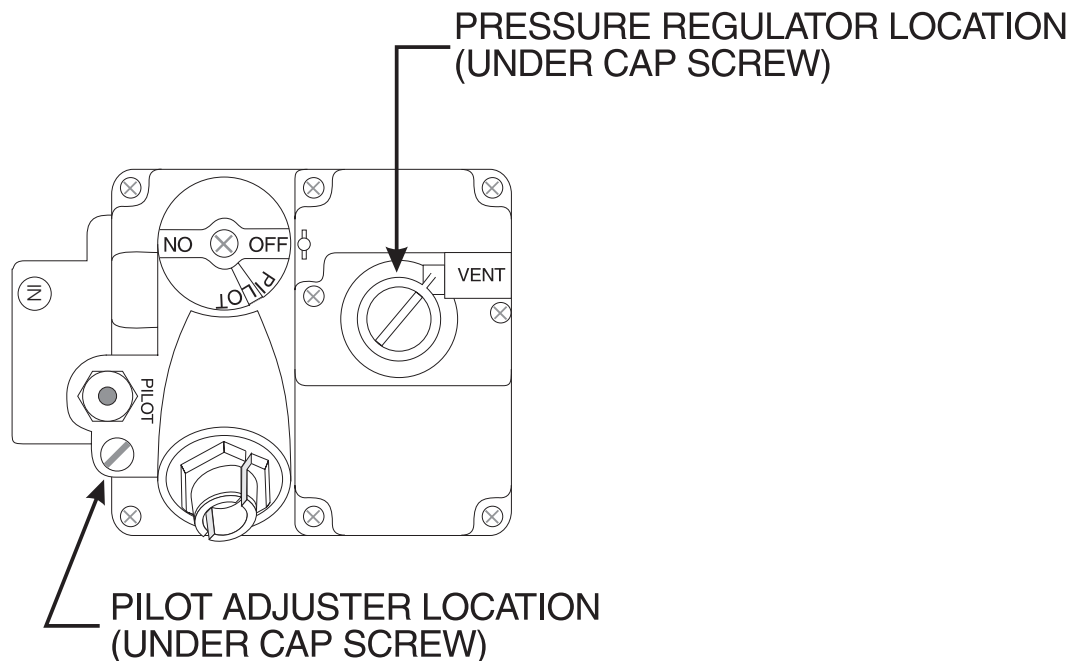

Figure 1-3 Typical Gas Valve Showing Location of Pressure Regulator and Pilot Adjusters
1.5.2.2.1 Electronic Ignition Pilot Flame Adjustment - Figure 1-3 illustrates the pilot adjusting screw location
- d. To adjust the pressure, remove the regulator adjustment screw cover (see Figure 1-3). Use a flat tip screwdriver to adjust the screw until the proper pressure is reached. Turning the screw clockwise will increase the pressure, counterclockwise will decrease the pressure.